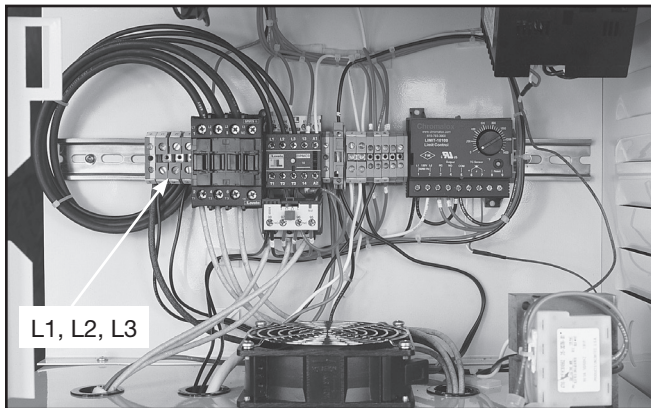

Figure 2.3 Power Connection Terminals
2. Open the front electrical enclosure door. Using 90°C wire sized per National and local codes, run each leg of the three phase supply power and ground to the appropriate terminals as shown in Figure 2.3.